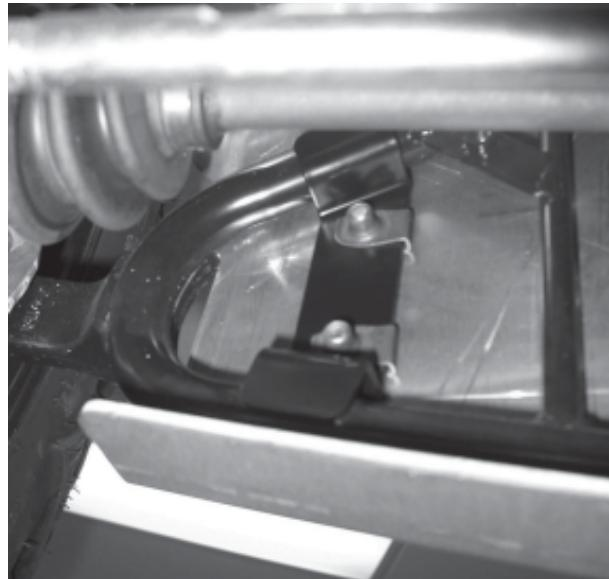

Figure 2
4. Install 5/16" bolt (B3) through guard and bracket and fasten with washer (B1) and lock nut (B2). Do not tighten. (**Figure 2**)